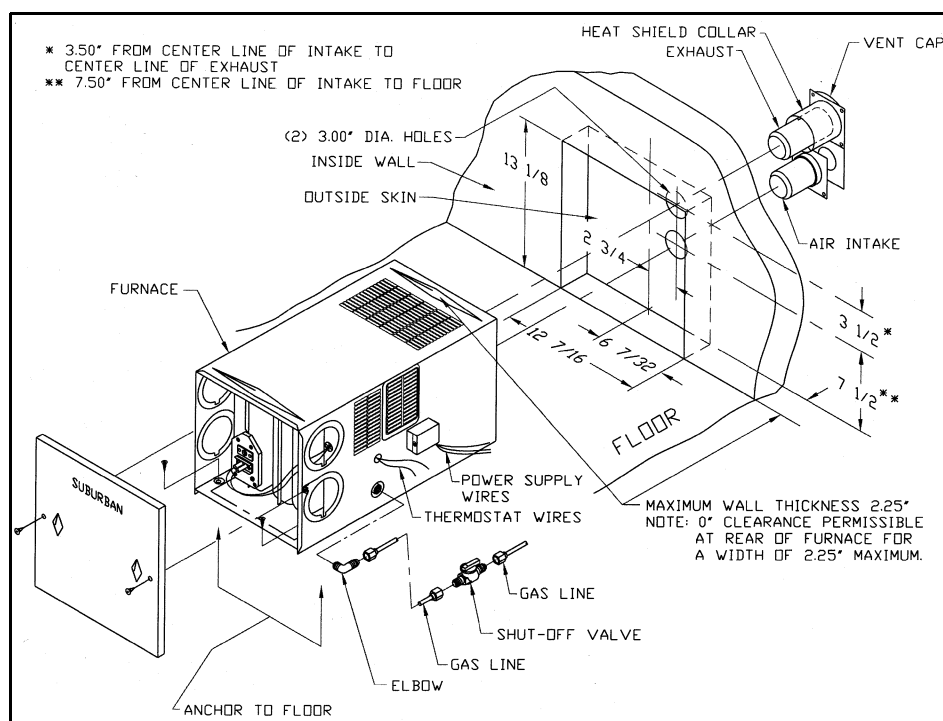

Figure 1
Connect the gas supply to the furnace at the manifold. A suggested method is illustrated in Figure 1. Other methods are acceptable if they allow for the gas to be shut off at the furnace for furnace removal while allowing other appliances to remain operational.
1. Be sure that the manual shut-off valve is outside of the furnace jacket and easily accessible. (See Figure 1.)